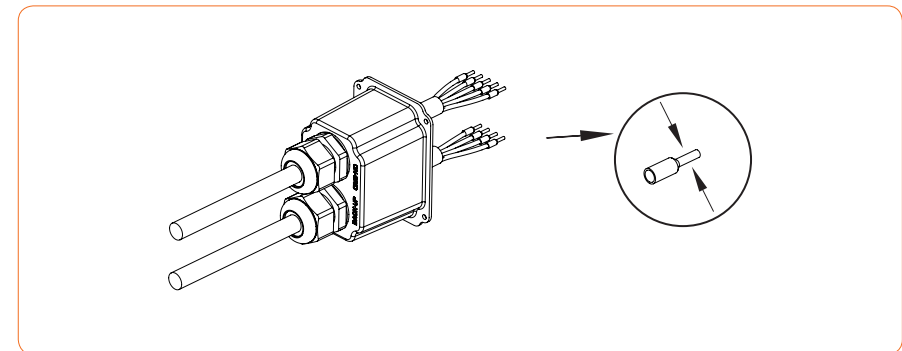

Figure 4-29
③ Put the cord end terminals on the stripped conductors one by one and press with some pressure to make it tightly locked with the conductors, as shown in Figure 4-29: